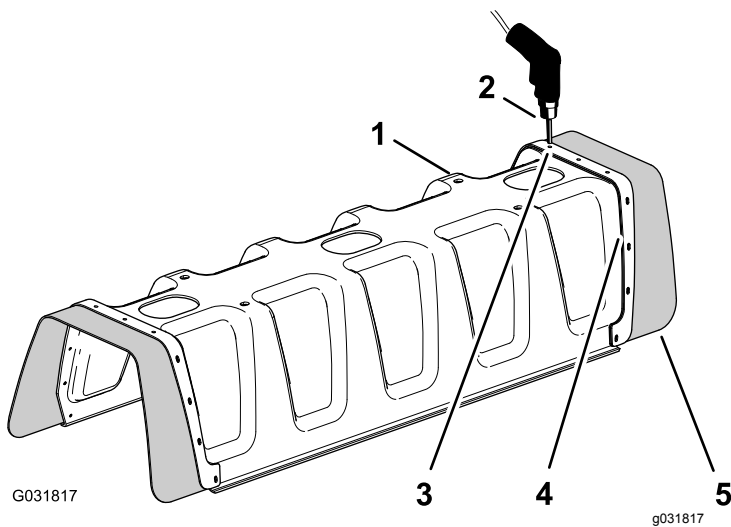

Figure 145
1. Using a drill with a 5 mm (3/16 inch) drill bit, drill the 11 pop-rivets (Figure 145) that secure the reinforcement plate (with a single row of rivets) and rubber cover to the end of the 11-nozzle section cover for the center-spray section that you removed in step 2 of 6 Removing the Center-Section Cover \(11-nozzle\) of the Optional Covered-Boom Kit \(page 19\).
2. Remove the reinforcement plate, 11 washers (3/16 inch), and rubber cover from the 11-nozzle boom cover (Figure 145).